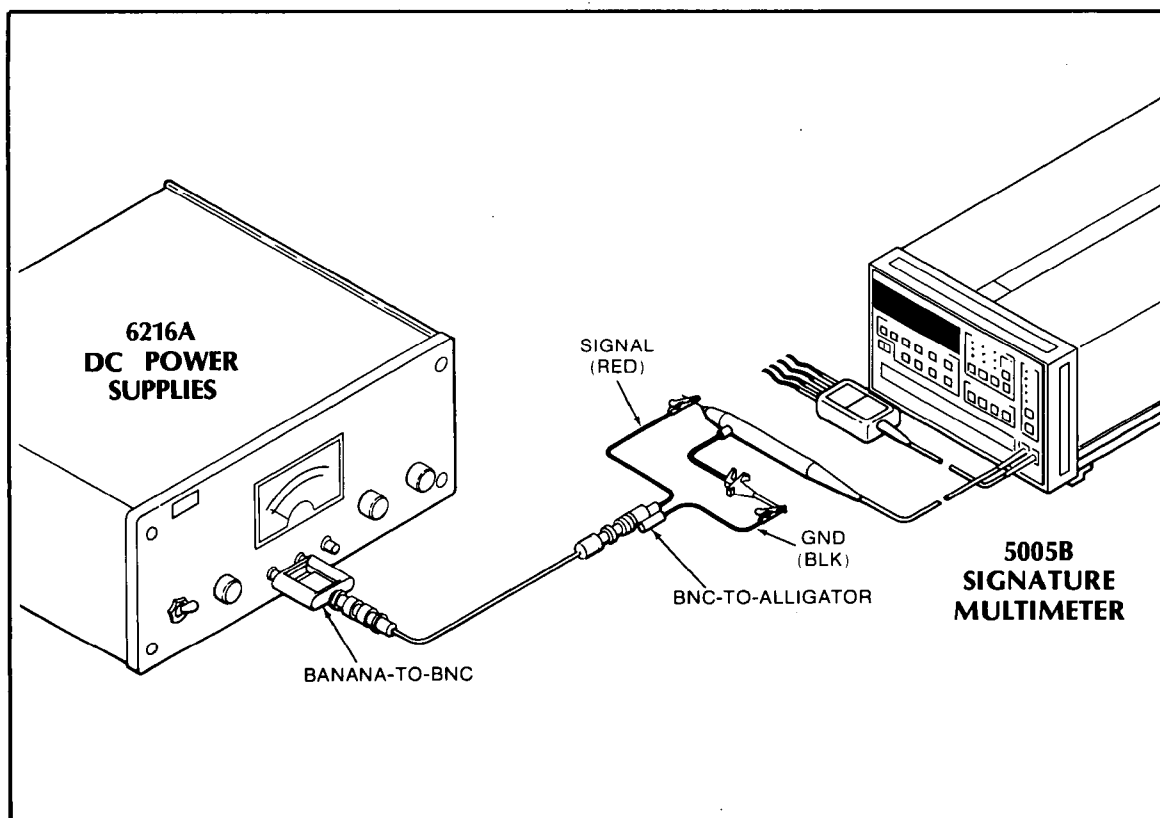

Figure 4-5. Voltmeter Operation Verification Test Setup
- b. Connect equipment as shown in Figure 4-5.